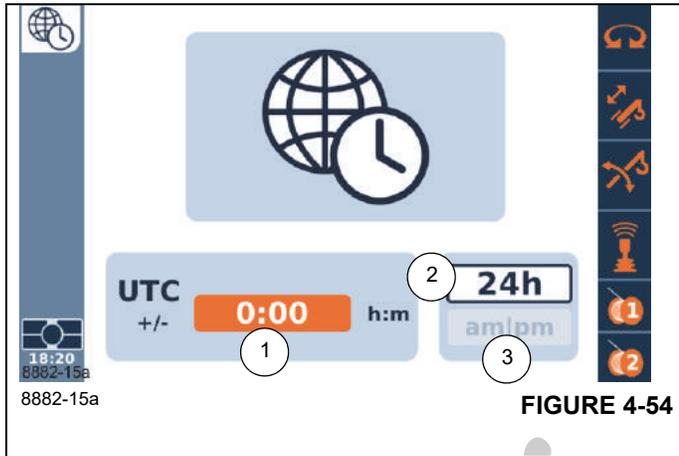

FIGURE 4-54
To set the time zone function (1), (Figure 4-54), select the Symbol (1) and confirm.
Using the Jog Dial (5), (Figure 4-22) highlight the hours number (1), (Figure 4-54), then use the Up or Down Arrow keys (4), (Figure 4-21) to enter the UTC (Coordinated Universal Time). **NOTE:** UTC is considered interchangeable with Greenwich Mean Time (GMT). Use the plus or minus time zone and push enter. Then highlight the minutes number and using the up or down arrows or jog dial set the current minute value and press enter. Then highlight the 24h or 12h option and press enter. Select either AM or PM and press enter.